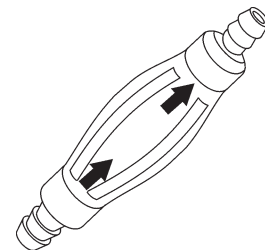

Figure 13. Priming Bulb
2. Connect an extension cord (Figure 13) of adequate current carrying capacity to the power plug on the electric motor.
4. With the engine running, squeeze the water pump **priming bulb** (Figure 13) until water begins to flow through the water lines. If the pump is working correctly, the cutting blade should be covered with a steady water mist. This will keep the blade cool while cutting.